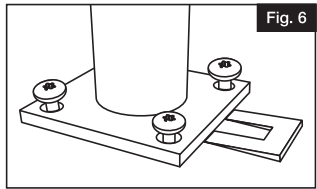

Fig. 6
- If needed, insert supplied shim underneath bottom of structural post mount (Fig. 6).